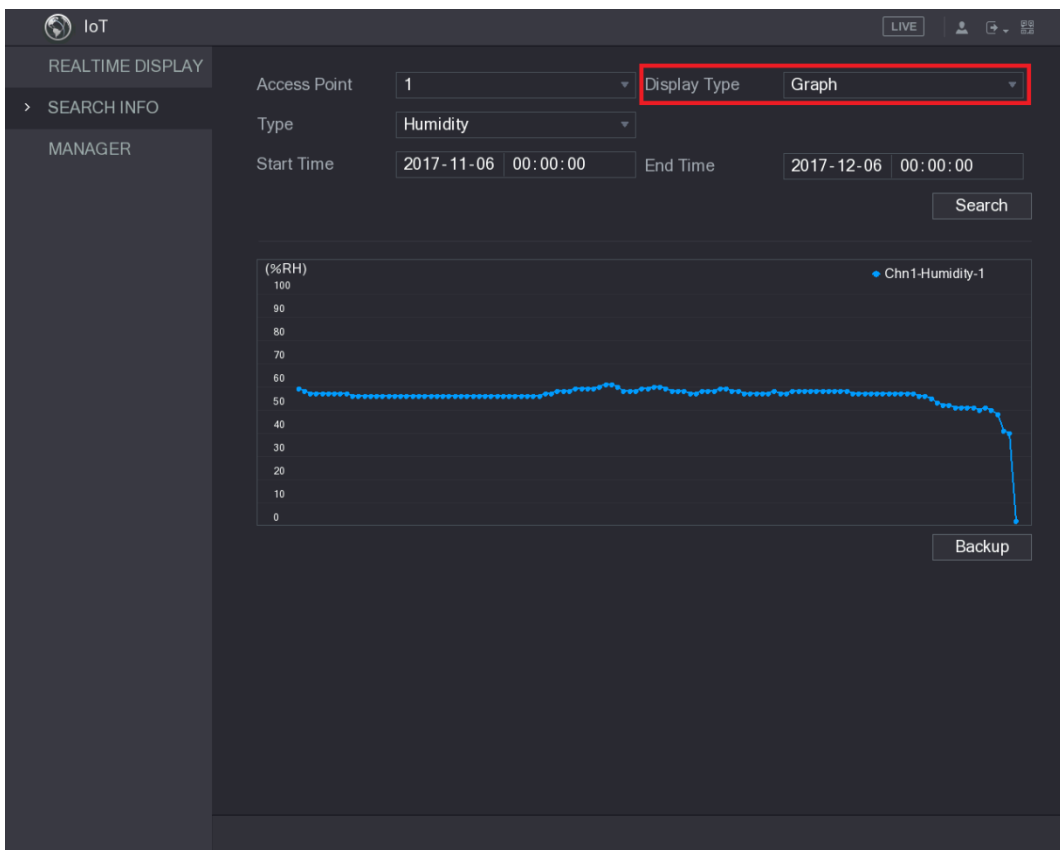

Figure 5-195
- For the data displayed in graph, see Figure 5-195.